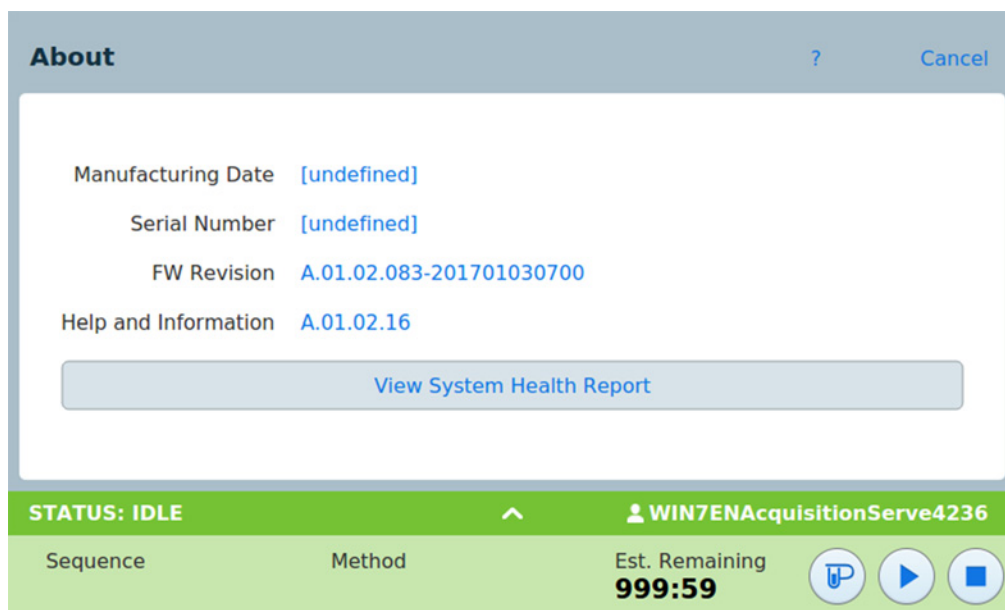

Figure 37 About page
- 2 Press **About**. The About page appears. See Figure 37.